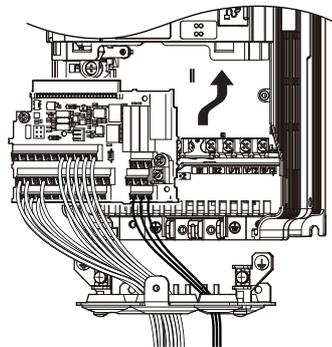

Figure 7.61 Drive Replacement: Installing the Terminal Board
- Once the main circuit has been wired, connect the terminal block to the drive as shown in Figure 7.61. Use the installation screw to fasten the terminal block into place.